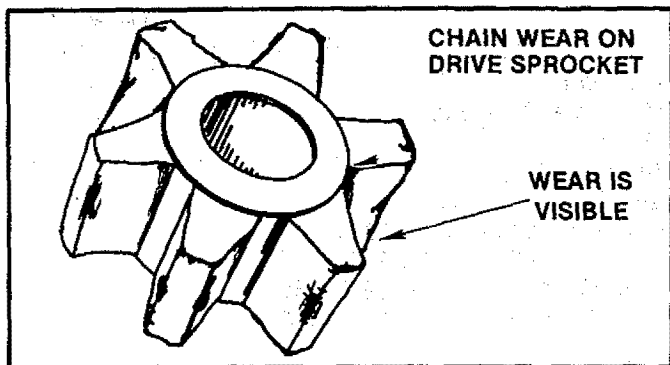

Figure 44
- Inspect the sprocket regularly for wear. A worn sprocket will cause the chain to run erratically and will shorten the life of the bar and chain. Figure 44.